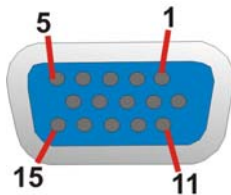

Figure 4-29: VGA Connector
- CN Pinouts:** See Figure 4-29 and Table 4-30